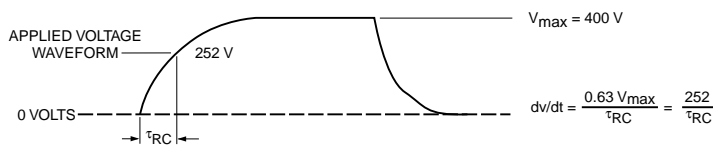

**Figure 9. Static dv/dt Test Circuit**
- This is static dv/dt. See Figure 9 for test circuit. Commutating dv/dt is a function of the load-driving thyristor(s) only.